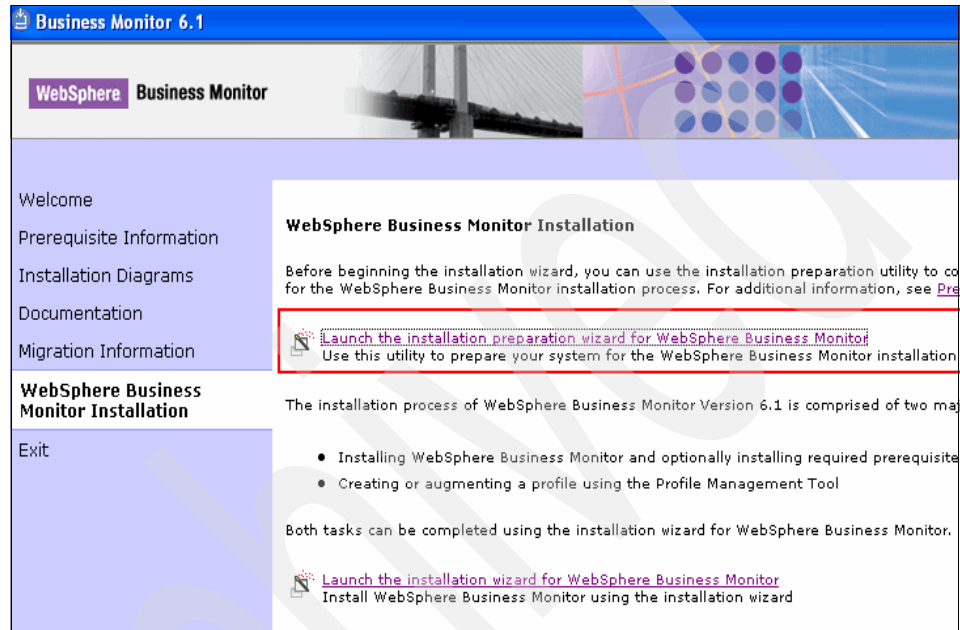

Figure 3-11 WebSphere Business Monitor Installation preparation wizard
2. In the Launchpad, click **Launch the installation preparation wizard for WebSphere Business Monitor** (Figure 3-11).